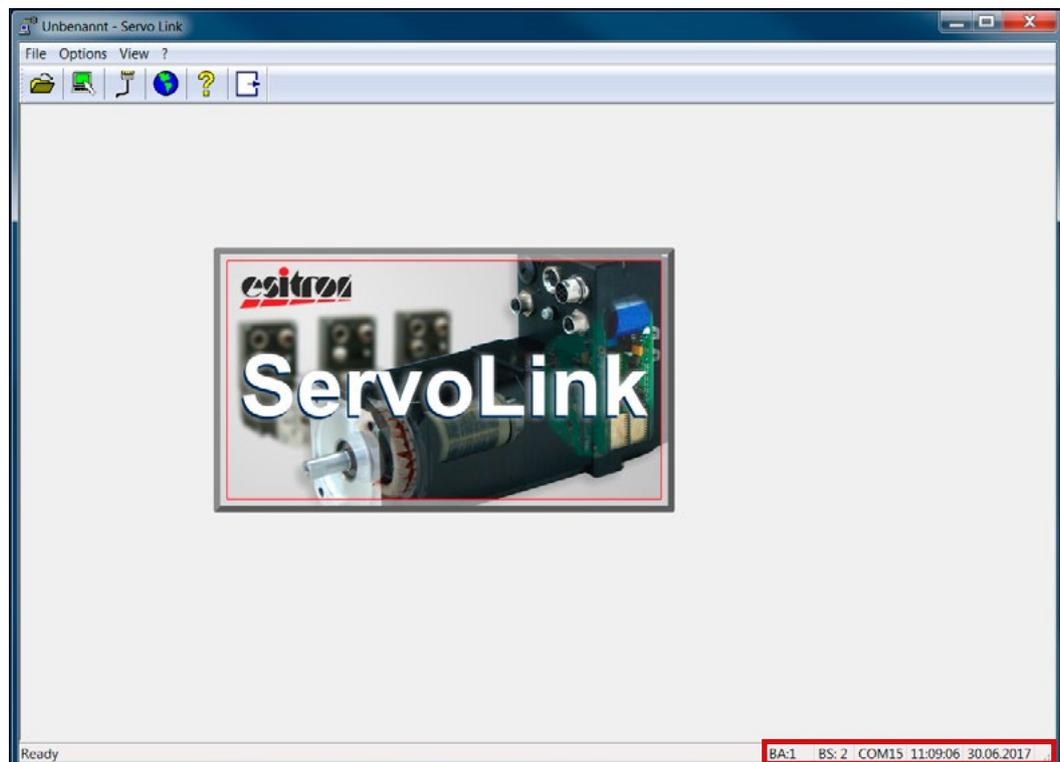

Fig. 12: Active COM port in ServoLink program interface
- 4.2 Check the chosen COM port number (see Fig. 12 and Fig. 13).